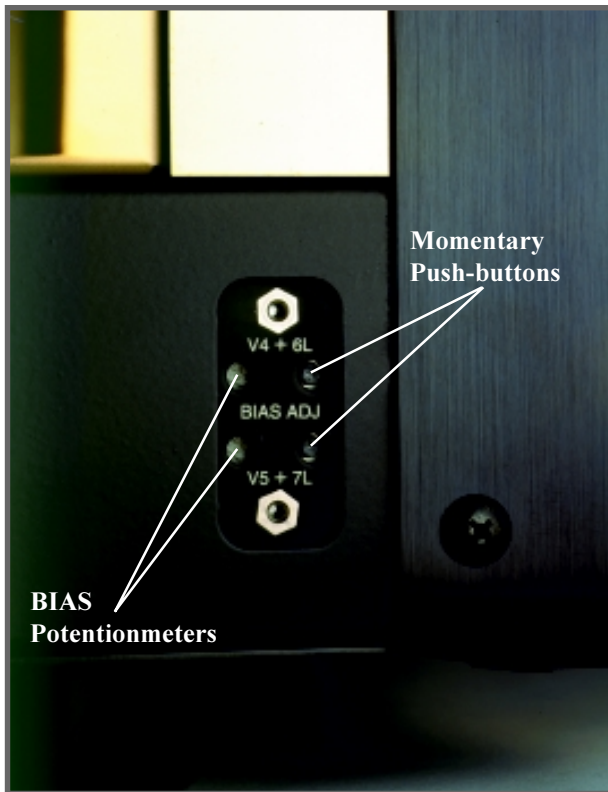

Figure 16
3. Facing the Left Side of the MC2000 press and hold in the momentary push-button for V4+6 L, and at the same time carefully adjust the BIAS Potentiometer V4+6 L for a MC2000 Left Meter indication centered between .13 and 1.3. Refer to figures 16 and 18.